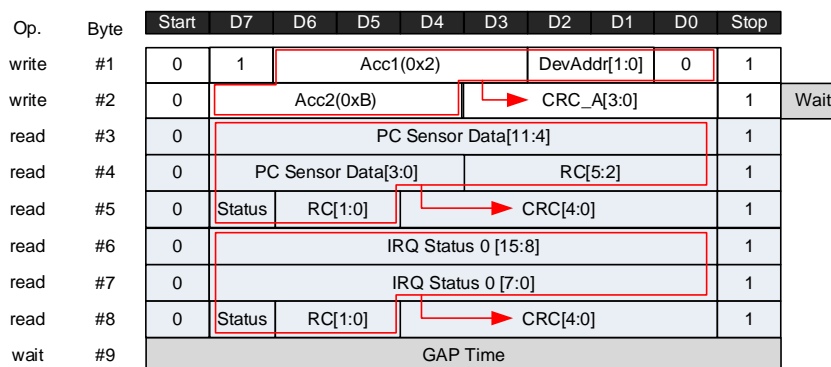

Figure 47. UART Fast Read Mode Example with Different Access Codes
- Fast read mode of two registers within one frame with 12,14 or 16 bits of data per register (Figure 47)
The frame structure can be seen in Figure 47, an example of reading 12-bit primary coil sensor data (Acc1 = 0x2) and 16-bit IRQ status 0 (Acc2 = 0xB), the frame bitfield are described in the list below: